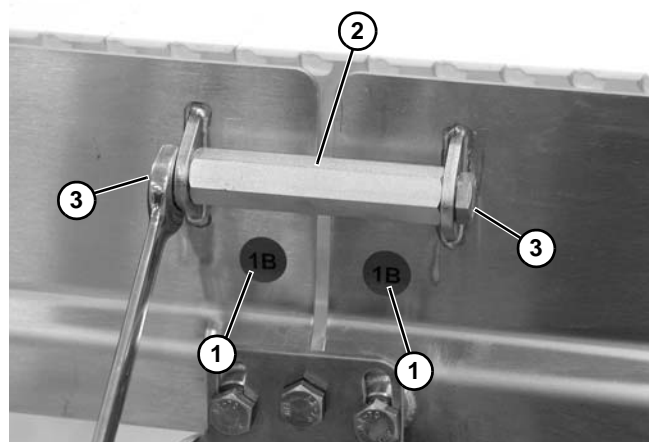

Figure 5
1. Locate and arrange conveyor frame sections by section labels (Figure 5, item 1).
2. Join both conveyor frame sections and install connector (Figure 5, item 2) with two screws (Figure 5, item 3). Repeat on opposite side. Tighten screws 28-32 Nm (20-24 ft-lbs).